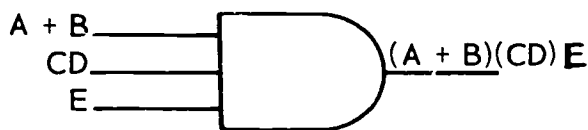

Figure 1-64. Using parentheses.
(3) An input signal to any symbol NOT at the extreme left may be represented by two or more letters. These letters should remain grouped in the output expression (see fig. 1-64).